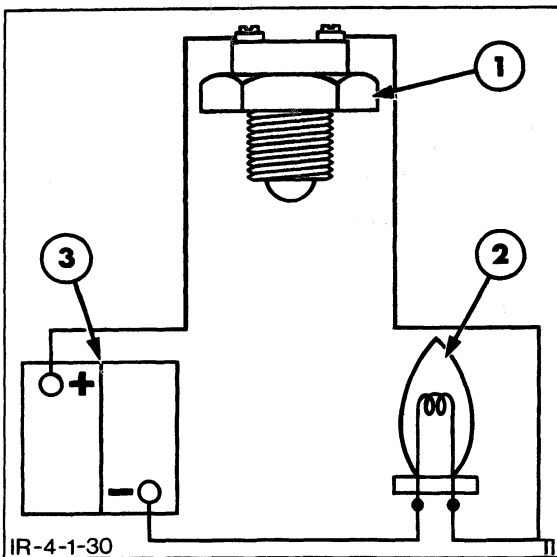

FIGURE 4-28
2. Check the safety start switches for operation by connecting the switch to a suitable bulb and battery as illustrated in Figure 4-28.